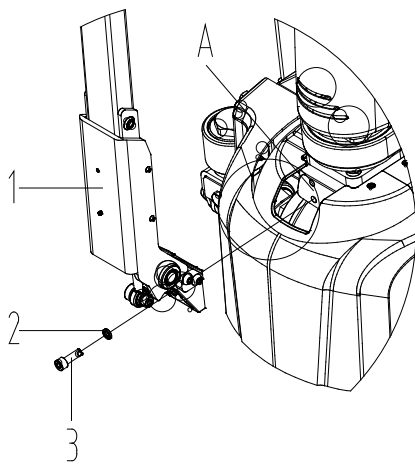

Figure 2
- As shown in Figure 2, take out the handle assembly 1, align it with the installation position A, and fix it reliably with screws 3 and washers 2.